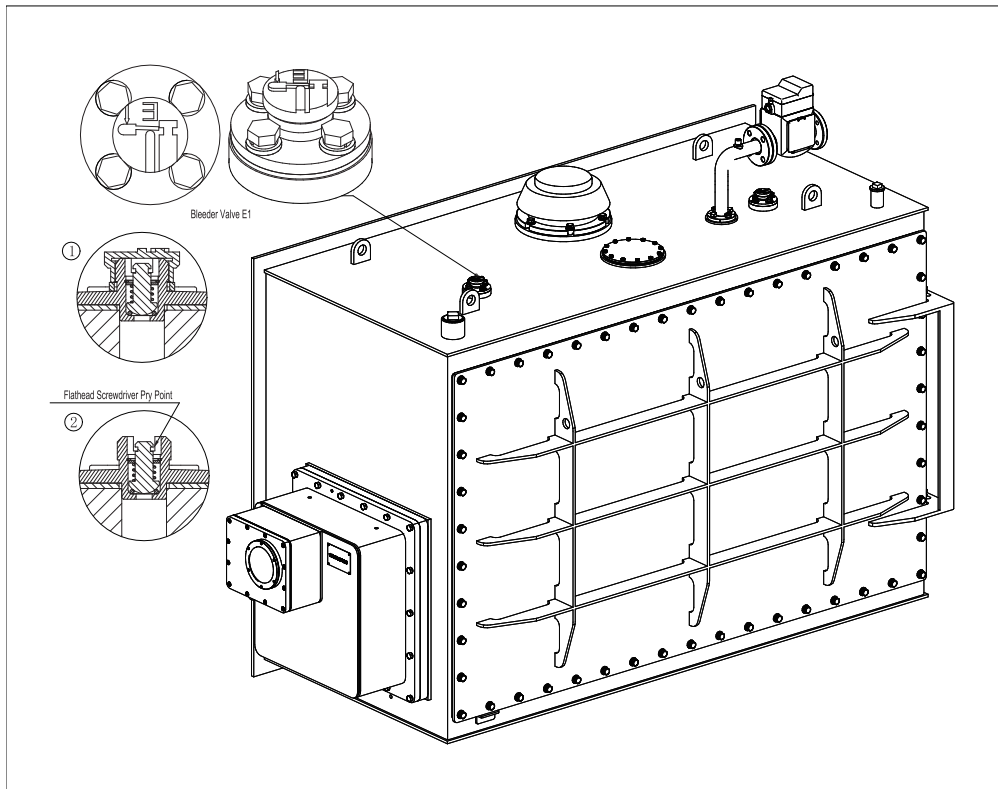

Figure 9-1 Bleeder Valve
- Carefully pry open the valve stem using a screwdriver to bleed air from the OLTC oil compartment until oil flows out (see Figure 9-1).